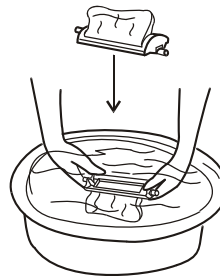

Figure 2
Put it in water and clean while it is still wet.(See to Figure 2)
- (1).Insert the mounting plate at the bottom of the frame into the valve cover.
- (2).Hang up the hook at the left upper side.
- (3).Push the upper part in as indicated in Figure 2.